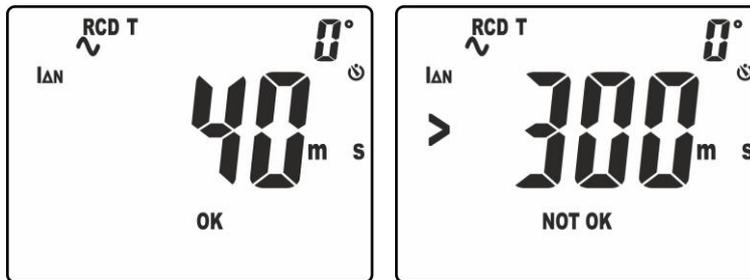

Fig. 35: Tripping time in manual mode at $I_{\Delta n}$
- 10. The correct measurement result is shown on the display (see Fig. 35 – left side) with indication “OK”
- 11. The correct measurement result is shown on the display (see Fig. 35 – right side) with indication “NOT OK”. The buzzer gives a short continuous sound